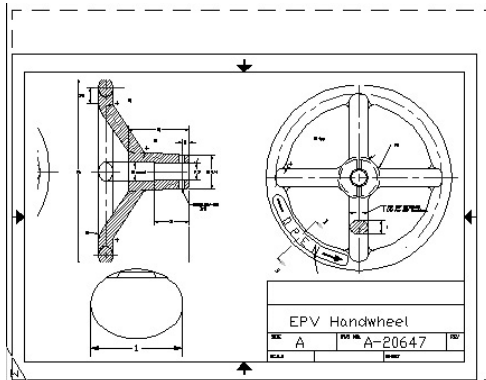

**Figure 17-14:** The completed drawing layout is now ready for plotting.
17. Double-click inside each viewport in turn to switch to model space, and pan until you see the view shown in Figure 17-14. It doesn't have to match exactly. If you want, you can resize the viewports to fit the models better.
21. Choose Draw ⇨ Text ⇨ Single Line Text. Complete the text in the title block at the default height, as shown in Figure 17-14.